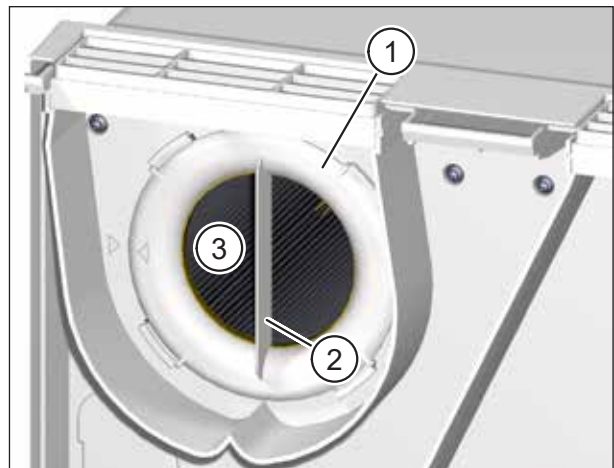

Fig. 21: Remove extract air filter
- ▶ Turn the filter ring (item 1 in Fig. 21) using the hand grip (item 2 in Fig. 21) anti-clockwise until the filter ring is released from the retainers.
- ▶ Pull the filter ring together with the extract air filter (item 3 in Fig. 21) out of the ventilation unit.